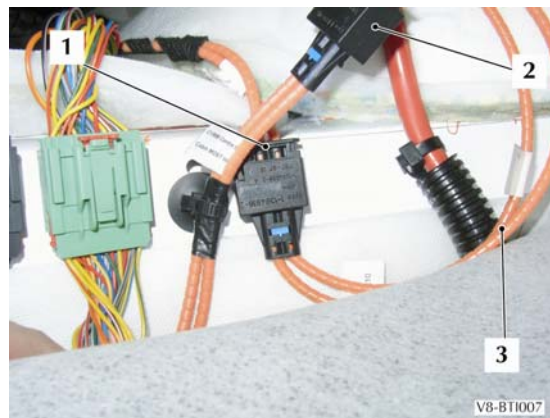

Figure 7
56. Pull the carpet away from the tunnel to get access to the MOST harness connectors (see Figure 7).